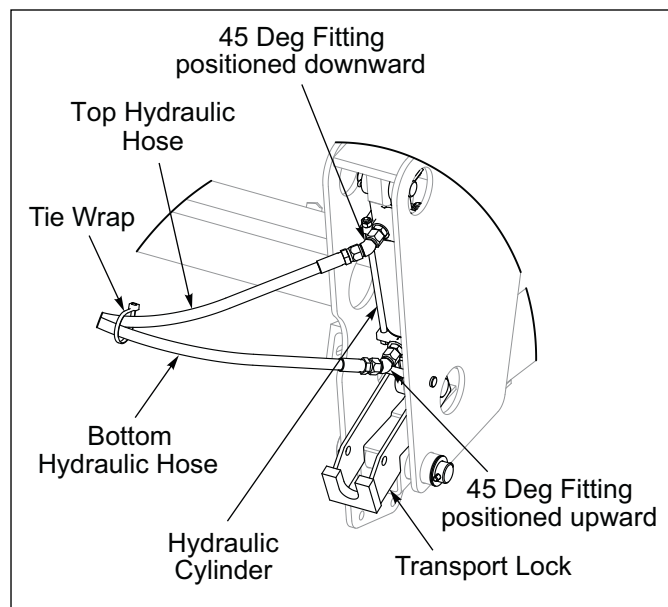

Figure 2-11: Cylinder Fittings Positioning
1. Restrictors installed in Cylinder Ports, connect 45 Degree Fitting so they are free to swivel. Connect top Hydraulic Hose to the Cylinder Base and bottom Hydraulic Hose to the Cylinder Rod End. Position the Hydraulic Hoses so that the Cylinder Base End points downward and the Cylinder Rod End points upward. Merge Hydraulic Hoses together and tie wrap them together about 12 inches from the Hose End. See Figure 2-11. Be sure that the Hoses cannot sag and make contact with the Front Roller Wheels.